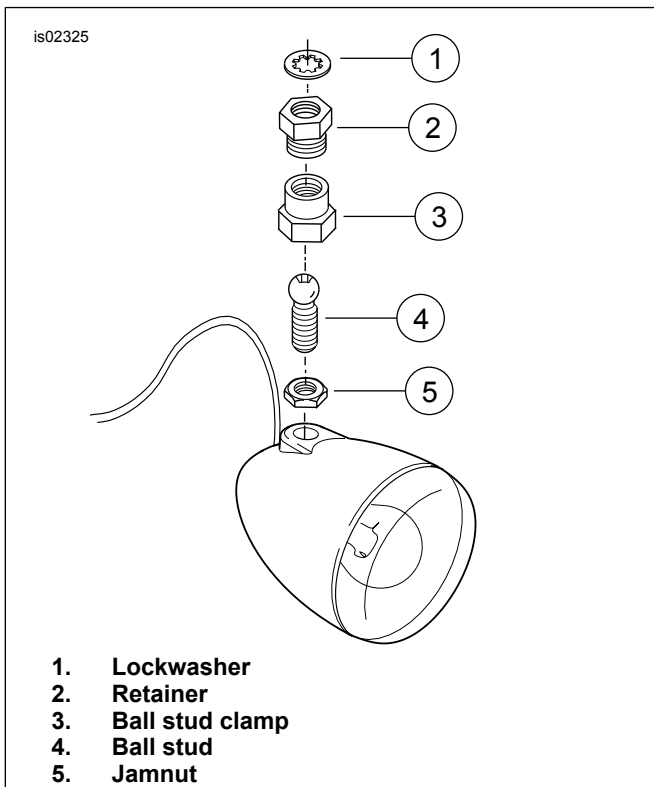

Figure 9. Remove Turn Signal Assemblies
6. See Figure 9 and perform Steps (a) through (d) for each turn signal.